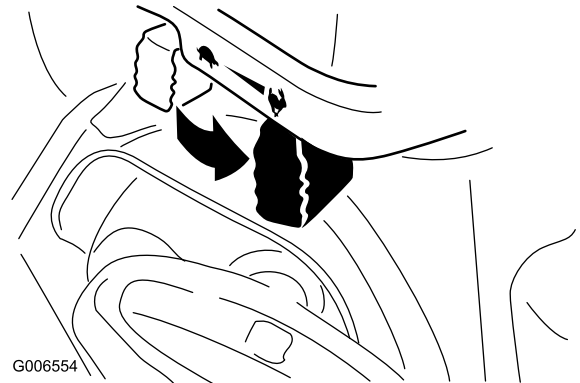

Figure 22
6. Move the throttle to the Fast position (Figure 22).